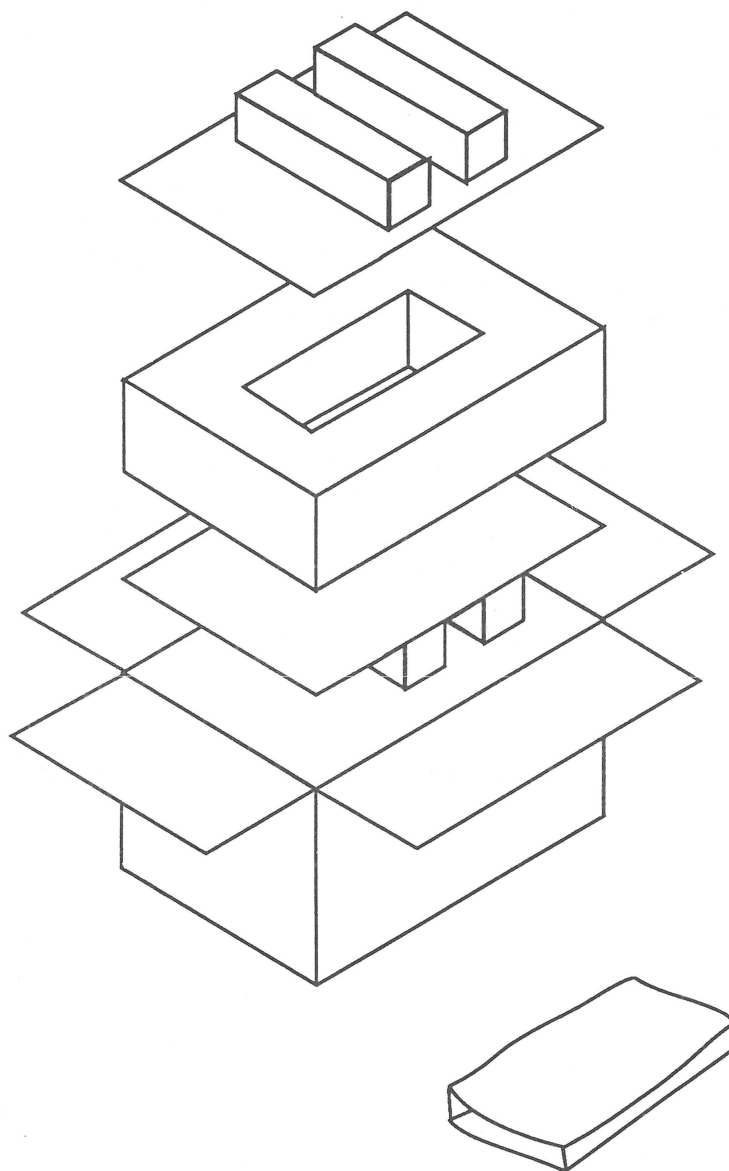

FIGURE 9
□ **SERVICE PACKAGING, 800K/1.4 MB DRIVES (Figure 9)**